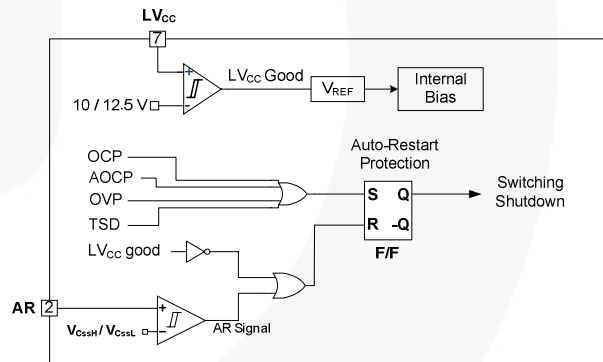

Figure 22. Protection Blocks
5. Protection Circuits: The FLS-XS series has several self-protective functions, such as Over-Current Protection (OCP), Abnormal Over-Current Protection (AOCP), Over-Voltage Protection (OVP), and Thermal Shutdown (TSD). These protections are auto-restart-mode protections, as shown in Figure 22.